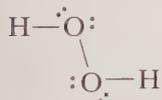

Figure 3.18 The hydrogen peroxide molecule, H_2O_2 .
23. Like water, hydrogen peroxide (Fig. 3.18) ionizes slightly to produce a hydrogen cation and an anion. What is the chemical structure of the anion resulting from the ionization of H_2O_2 ? Show the structure in two ways: (1) with pairs of electrons represented by pairs of dots and (2) with covalent bonds represented by dashes.